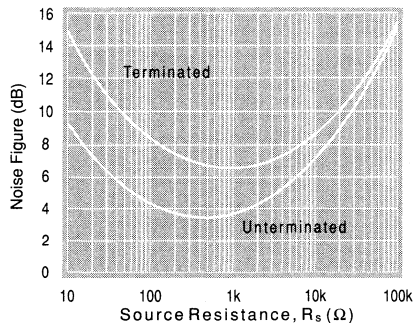

Figure 6: Noise Figure vs. Source Resistance
Noise Figure (NF) can be defined as the ratio of the total output noise power (e_{no}) to that portion of output noise power caused by the source resistance ($e_t * A_v$) and is so expressed in Equation 3. This definition assumes an unterminated source and that the parallel combination of R_i and R_g is chosen to equal to R_s for bias current cancellation. The curve labeled "Unterminated" in Figure 6 is a plot of NF vs. R_s and for a 50Ω source the CLC425's NF is $5.26dB$.